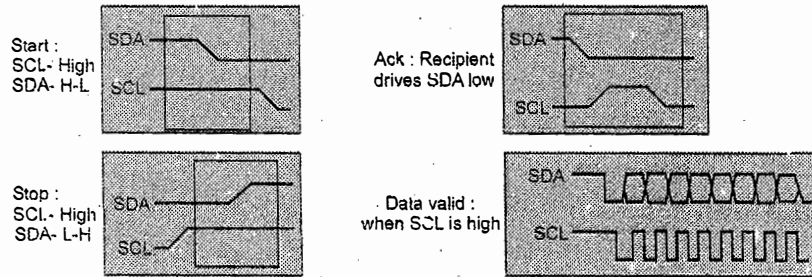
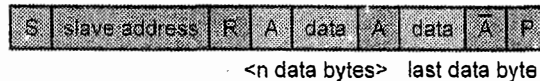

Fig. Q.5.1 Start, Stop, ACK and data valid condition
Fig. Q.5.3 Data transfer format
- The detailed sequence of data transfer and initial conditions are shown in Fig. Q.5.1, Q.5.2 and Fig. Q.5.3.